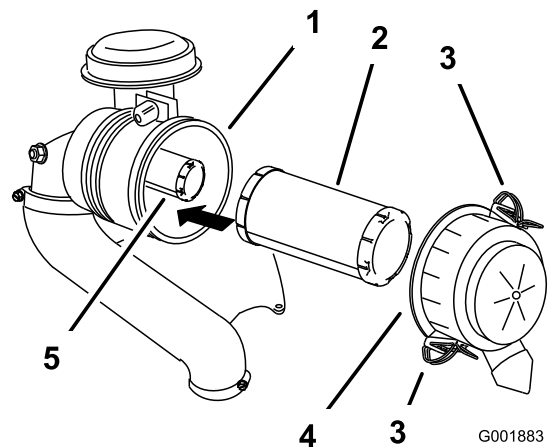

Figure 44
- Release the latches on the air cleaner and pull the air cleaner cover off the air cleaner body (Figure 44).
- Gently slide the primary filter out of the air cleaner body (Figure 44).
- If the safety filter is being replaced, carefully slide it into the filter body (Figure 44).
- Carefully slide the primary filter over the safety filter (Figure 44).
- Install the air cleaner cover with the side indicated as up facing upward and secure the latches (Figure 44).